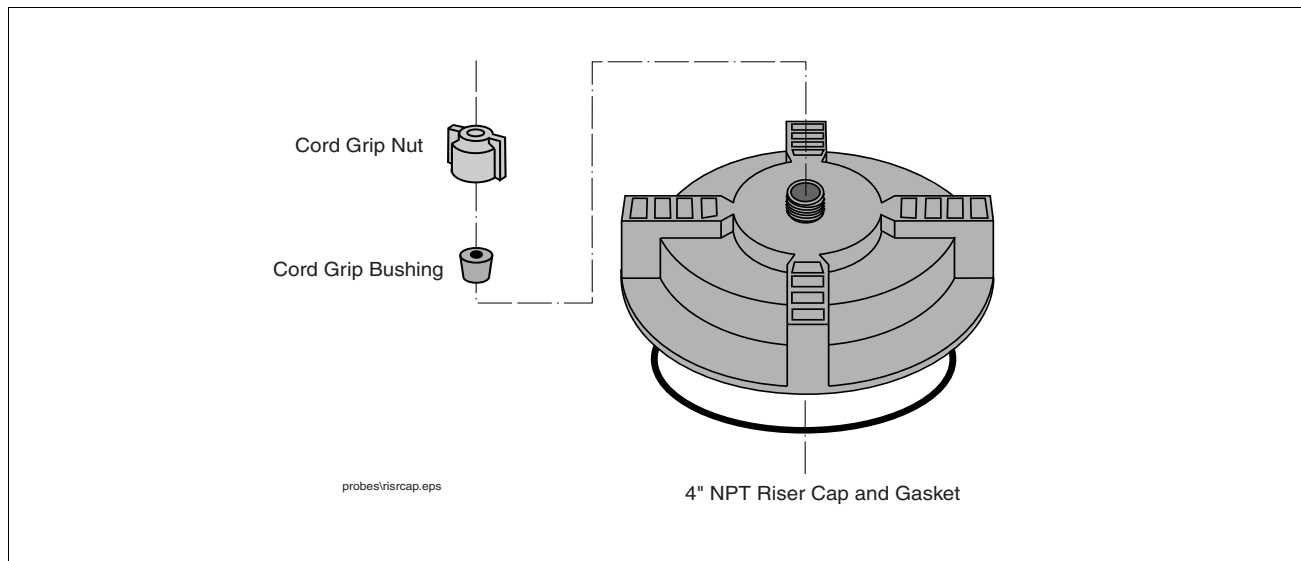

Figure 17. Cap and Cord Grip Kit
This Riser Cap kit (Table 7) contains a non-metallic cap which screws onto the 4" NPT riser (Figure 17). The cap comes drilled and tapped with a cord grip.
1. If you are using the one piece cap (see Figure 17 on page 24), push the end of the probe cable through the cord grip bushing and nut on the cap, leaving a minimal amount of slack between the probe and cap. Screw the cap onto the riser by hand until the gasket first contacts the pipe. Then lightly tap the cap with a hammer to tighten it an additional 3/4 turn. Go to Step 3.
1. If you are using the one piece cap (see Figure 17 on page 24), push the end of the probe cable through the cap and cord grip bushing, leaving a minimal amount of slack between the probe and cap. Discard the cord grip nut and attach the Adaptor Nut from the AST kit to the cap (see Figure 12 on page 19). Tighten the Adaptor Nut until the cable is held firmly. Go to Step 3.